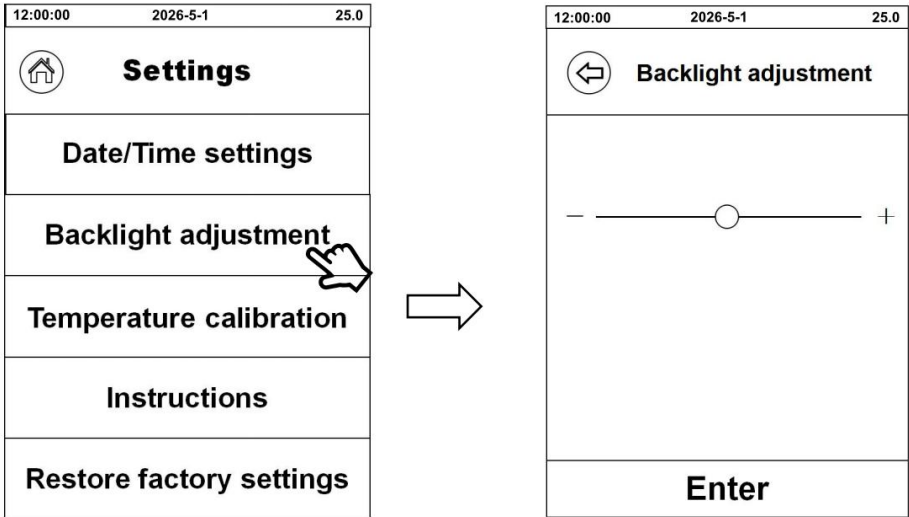

Fig. 18
2) Backlight adjustment: Click "Backlight Adjustment", adjust screen brightness by "-" "+" or dragging the circular button(Fig.18).